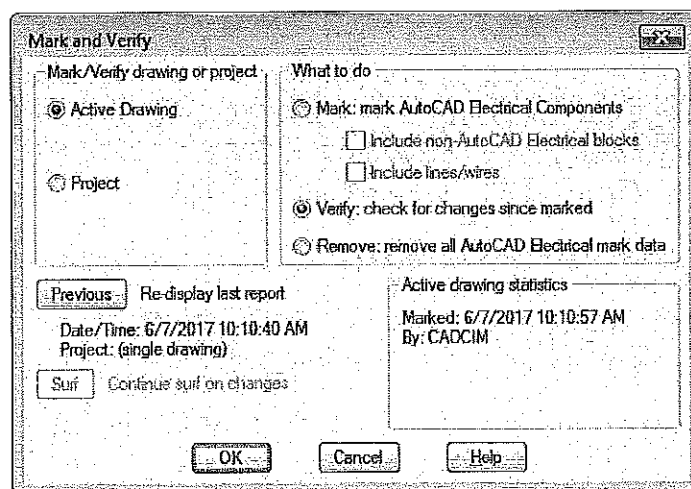

Figure 13-53 The modified **Mark and Verify** dialog box
1. Choose the **Mark/Verify DWGs** tool from the **Project Tools** panel of the **Project** tab; the modified **Mark and Verify** dialog box is displayed, as shown in Figure 13-53.